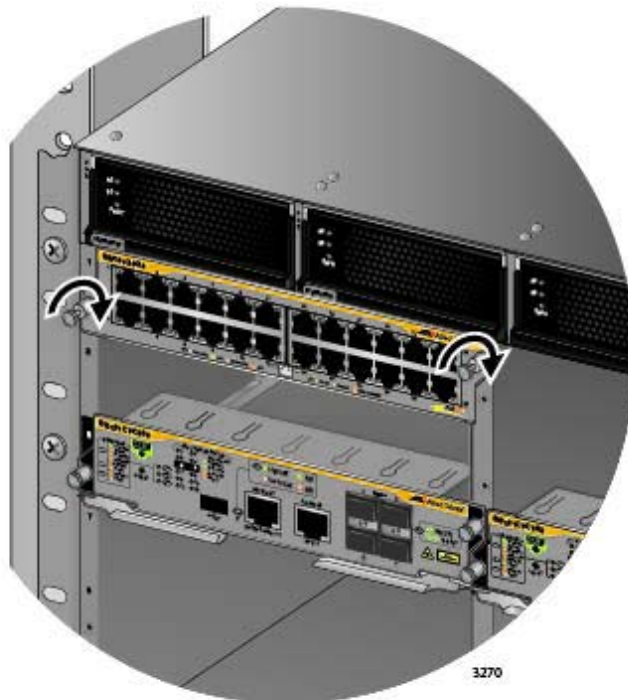

Figure 90. Tightening the Thumb Screws on an Ethernet Line Card
8. Finger tighten the two thumbscrews on the sides of the line card to secure it to the chassis, as shown in Figure 90.